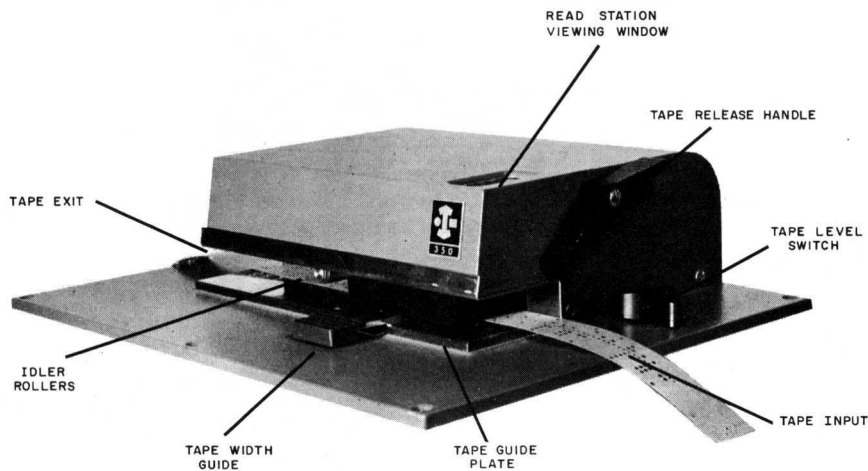

Figure 4-5. Paper Tape Reader
The reader is a CONTROL DATA 350 Paper Tape Reader (figure 4-5). It can read either a 5, a 7, or an 8-level tape. For a bi-octal tape with the 7th level control holes, assembly mode is selected; for a flex or other code, character mode is selected.
- 5) Insert tape as shown in figure 4-5. Make sure that the tape is properly aligned.